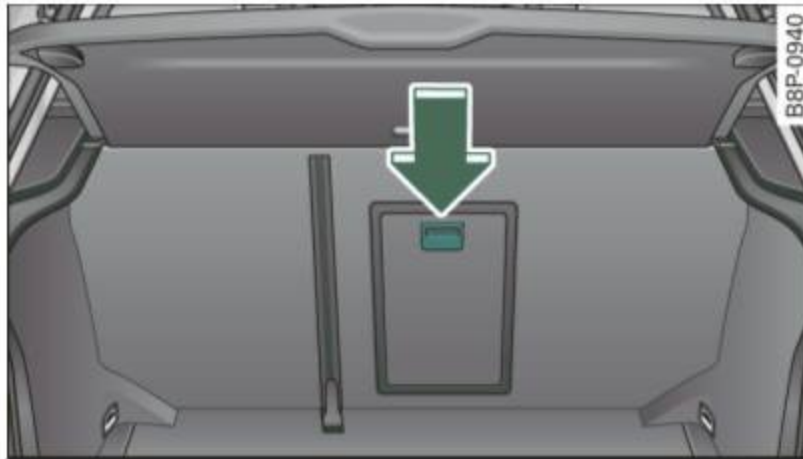

Fig. 86 Section of the rear seat from the rear: ski sack hatch cover
- Slide the release button for the pass-through down (with the center armrest) ⇒ fig. 86 -Arrow- and tilt the pass-through forward.